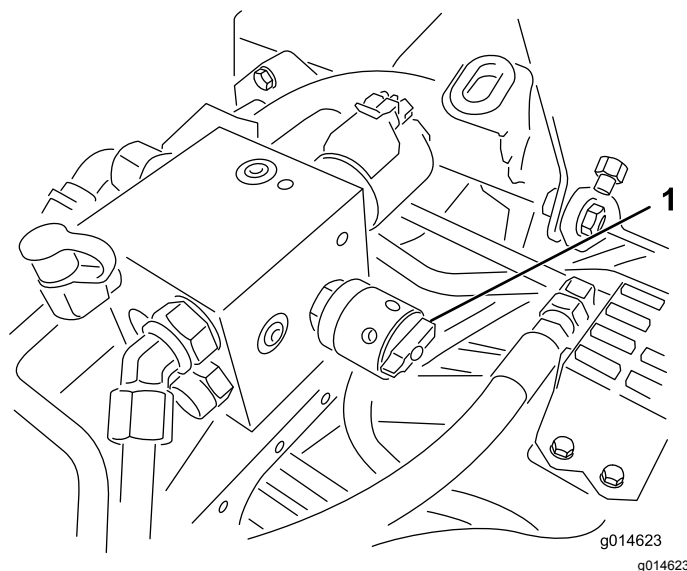

Figure 52
6. Rotate the reel-speed control to setting 1 (Figure 52).